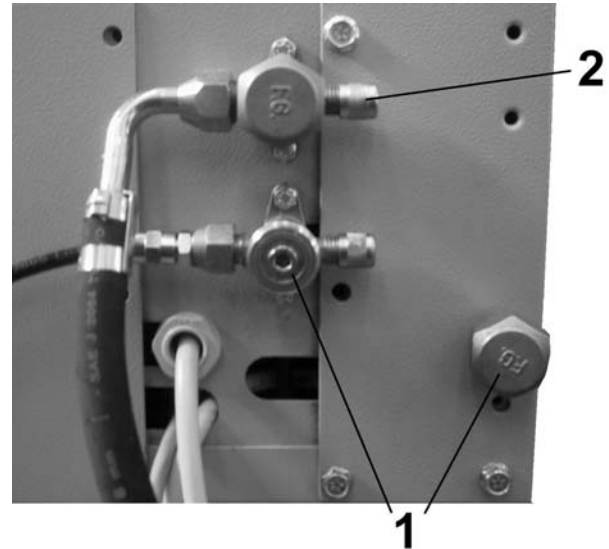

Fig. 27
**6.2.1** Screw out the guard of the service high pressure valve **Fig. 27 Ref. 1**.
**6.2.4** Screw out the protection plug of the bleed valve **Fig. 27 Ref. 2** placed on the service low pressure valve.
**6.2.6** Screw down the protection plug of the bleed valve **Fig. 27 Ref. 2** again.